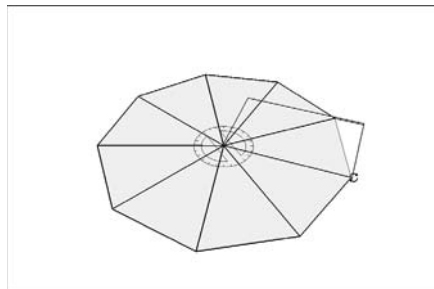

Figure 5-15:
5. Make copies of your wedge component instance with the Rotate tool (see Figure 5-15).